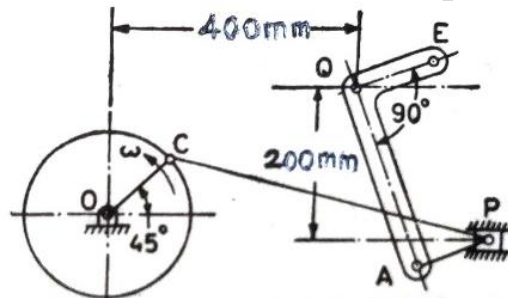

Fig. 5a
- 5 Fig. 5a shows the configuration OCPAQE of a mechanism. Find the angular acceleration of links CP, PA and AQ when the crank OC rotates uniformly at 120rpm in anticlockwise direction. The bell crank lever AQE is rocked about the fixed Centre Q by the link PA. Path of Point P is 25 mm vertically below point O. Also, OC = 125 mm, CP = 500 mm, PA = 125 mm, AQ = 250 mm, QE = 125 mm and Angle OC with horizontal is 45°. 20